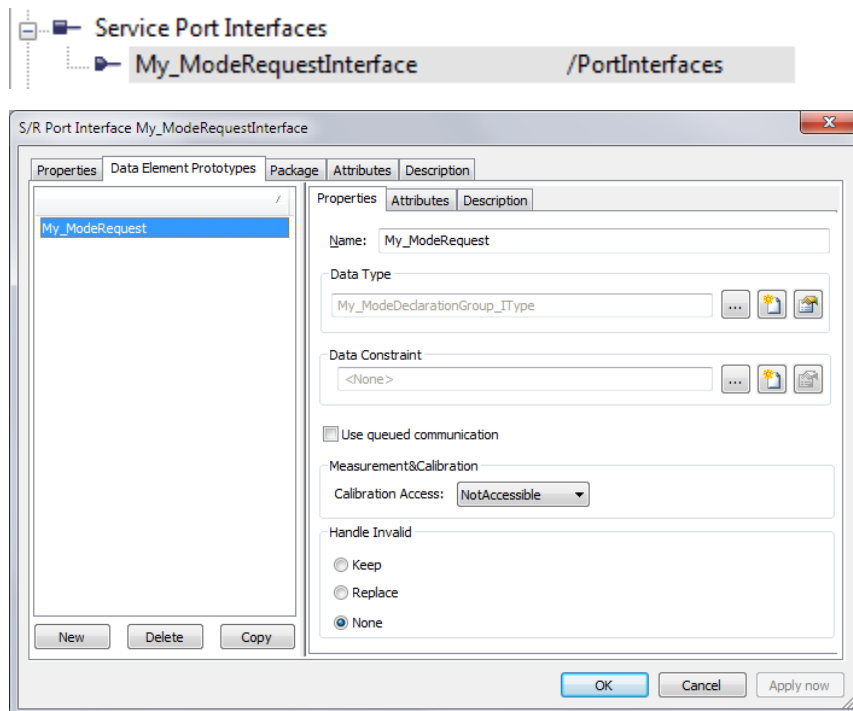

Figure 4-51 My_ModeRequestInterface
- A service sender/receiver port interface is created containing 1 data element typed by My_ModeDeclarationGroup_IType (Figure 4-51).